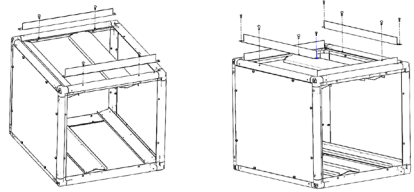

Fig. 7 Mount flanges to inlet and outlet. (3-ton model shown.)
5. If desired for installation, mount the flanges to the inlet and outlet. See Fig. 7.